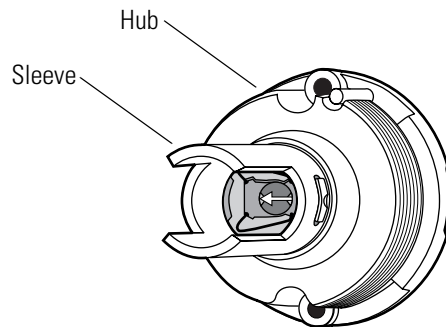

Figure 3.30 Replacing the sleeve assembly
3. Press the screwdriver blade in the direction of the arrow in Figure 3.30. Push the sleeve the rest of the way through the hub.